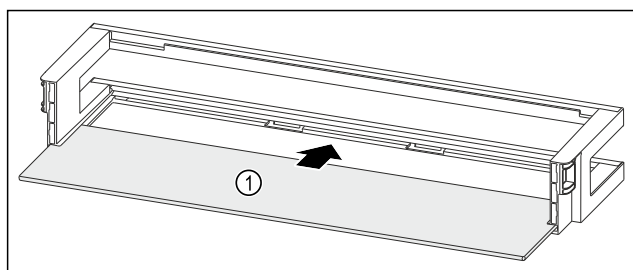

Fig. 250 Door rack with shelf
- Push the shelf Fig. 250 (1) into the side recesses.